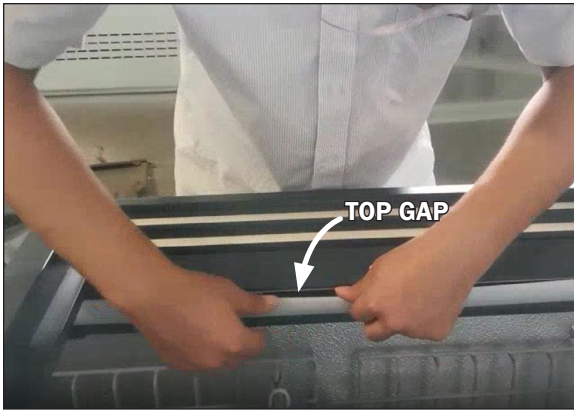

Fig. 26 Lampshade top gap
2. Gently push in at the top of the lampshade until there is a small gap (Fig. 26) while at the same time using a slotted screwdriver (Fig. 27) to gently pry open the lampshade at the top of the shade.